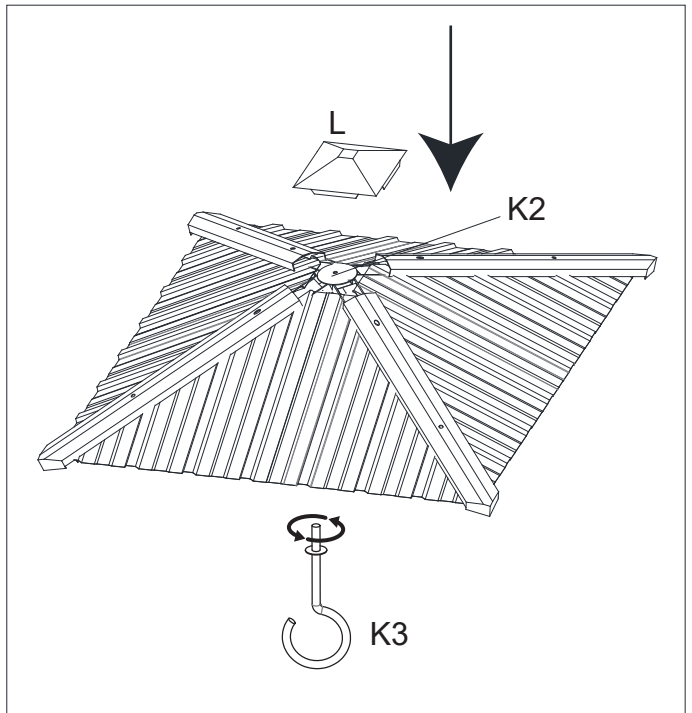
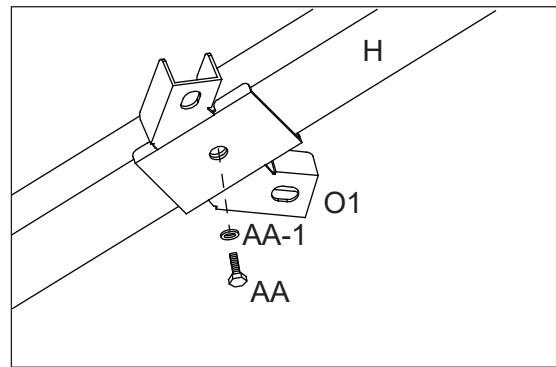

Figure 12-3
Figure 13-2
12.3: Attach the Roof Vent Top Trim (L) to the Roof Vent Center Support (K2) using Roof Vent Hook (K3) Tighten Bolts. See Figure 13-2 and Figure 12-3.
13.2: Attach Connector (O1) to Main Roof Corner Support (H) using Bolt (AA) and Steel washer (AA-1). See Figure 13-2.